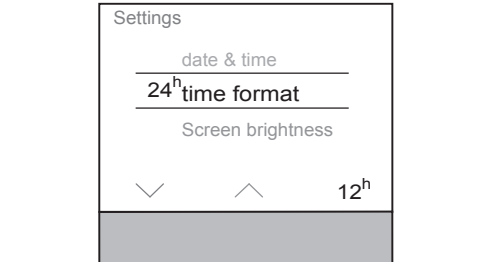

Figure 11: Time format setting
The time format changes from the 24° to 12° display. In the function line (8) the 24° appears in order to switch back again to 24° (figure 11).